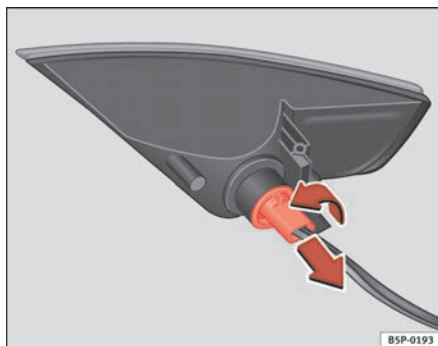

Fig. 189 Rear light after removal from bumper
- Rotate the lamp holder to the left, and remove it in the direction of the arrow ⇒ fig. 189.